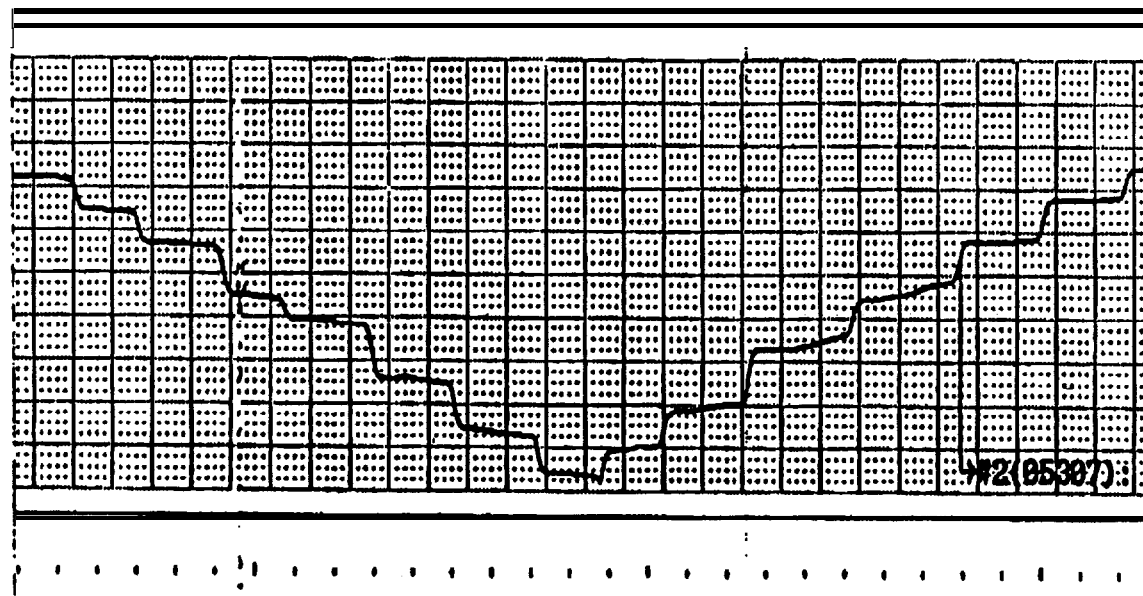

Figure 5-14 System Gain Low
5.18 System Gain Low - Figure 5-14 shows the effects of low system gain. Note the stepping in both channels.